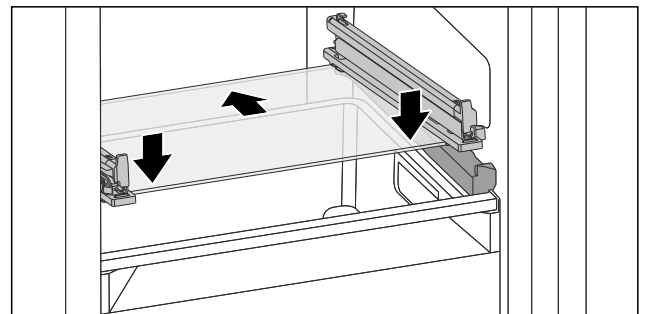

Fig. 86 Tilting drawer glass shelf
- Position glass shelf at an angle behind the stoppers. (see Fig. 86)